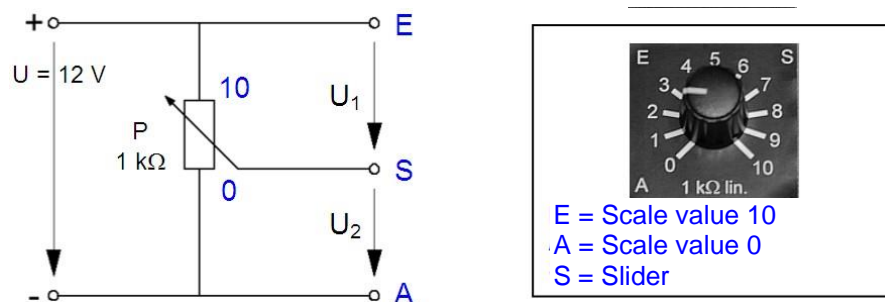

Fig. 4.1.2.2: Potentiometer
- Insert the potentiometer $P = 1\text{ k}\Omega$, into the circuit of Fig. 4.1.2.2 on the Electronic Circuits Board. Use an input voltage of $U = 12\text{ V}$ (check the set value, on a multimeter).